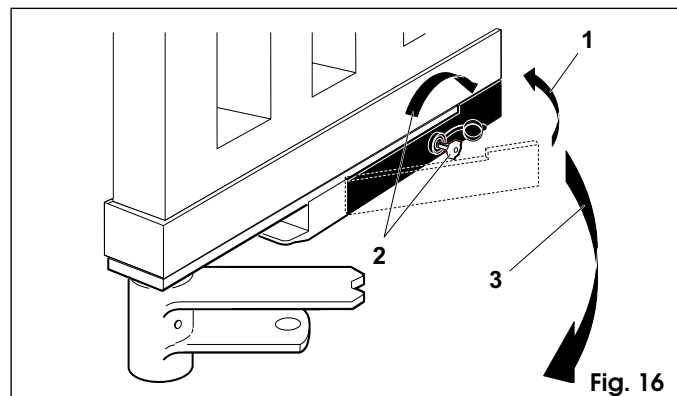

Fig. 16
- push the lever back into its home position (fig. 16-ref. 1);
- insert the release key in the lock and turn it in the direction opposite the post, as far as it will go (fig. 16-ref. 2);
- operate the leaf manually until the lock is engaged in the locking bracket (fig. 16-ref. 3);